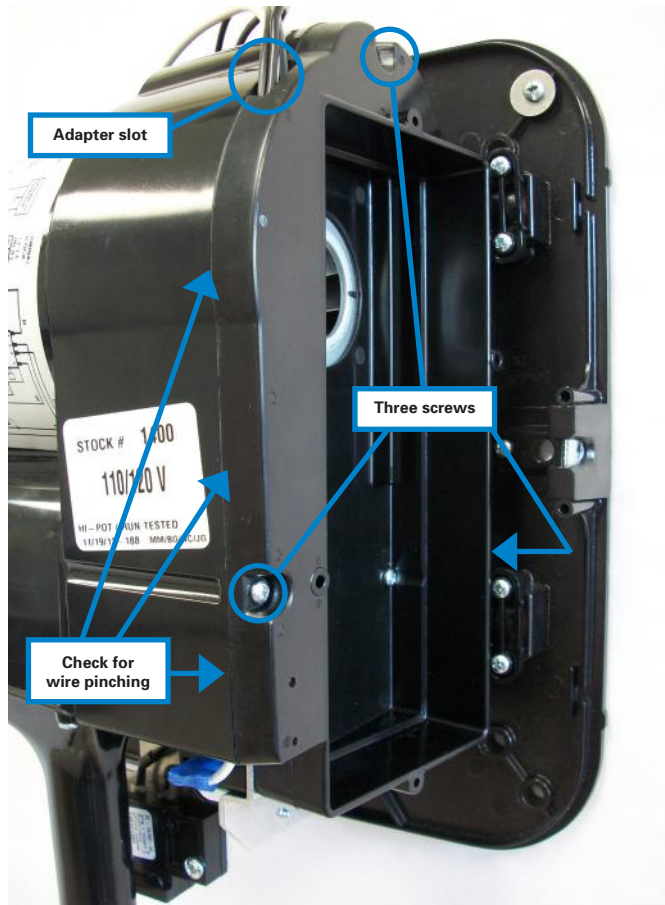

Figure 16
12. Attach the Filter Adapter with Control in the spot where the air inlet cover was removed, using the **three (3)** screws previously removed in Step 3. Make sure to route the wires through the Adapter slot so that they are not pinched (especially in the areas indicated in **Figure 16**). It may be necessary to adjust the position of the Adapter (A) until it is flush with the dryer housing. The Adapter will not be positioned flush to the dryer until the screws are tightened. The foam seal on the back of the Filter Adapter will compress against the casing of the motor.